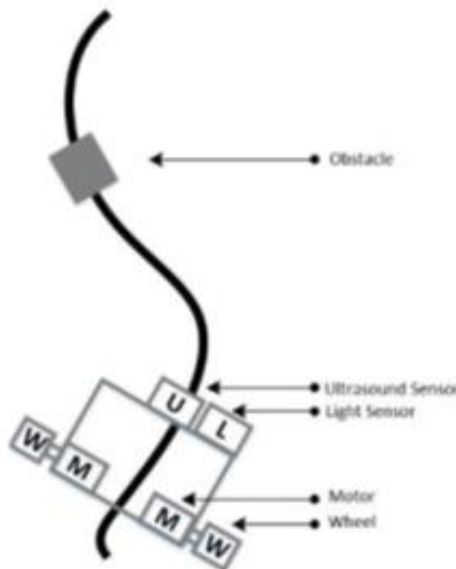

Figure 1- Schematic of the line follower robot
Line following robots are widely implemented in industrial robotics because they allow the robot to move from one point to another and perform various tasks. A line tracker employs light sensor(s) to follow a line and depending on the color of the path, it is expected to do different reactions upon facing an obstacle in their path. These sensors can be put in various layouts to improve the performance of the robot (Figure1).
- Track the simple line (given an initial condition). You can decide if the robot is initially in the left-hand side or right-hand side of the line (Figure 1).